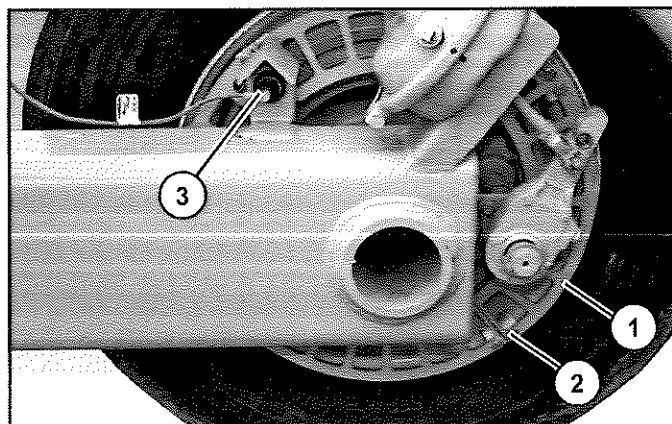

Figure 32
1. First install the counting wheel (Item 1). This is stored on the undercarriage for transportation. Remove the counter wheel from its holder and place the two halves in position on the tire rim, bolting with the bolts (Item 2) provided and positioning the nut towards the wheel hub. For transporting, bolts are located with the proximity switch in the electrical panel (**Figure 32**).
2. Installing the radial proximity switch (Item 3) (**Figure 32**), make sure there is 1/4" to 3/8" clearance from the counting wheel.